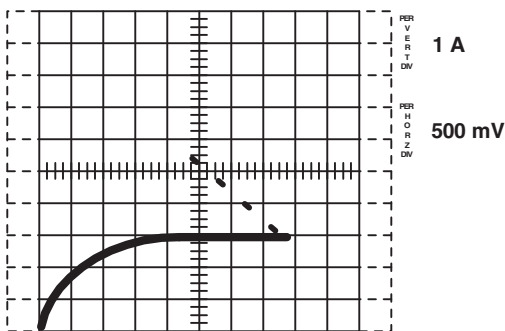

Fig. 7 - Drain-source resistance, pulsed mode
15. Connect the device using the **left/right** switch and raise the **variable collector supply** voltage until the desired value of drain current is obtained. $R_{DS(on)}$ is obtained from the trace by reading the peak values of current and voltage (see figures 7 and 8).